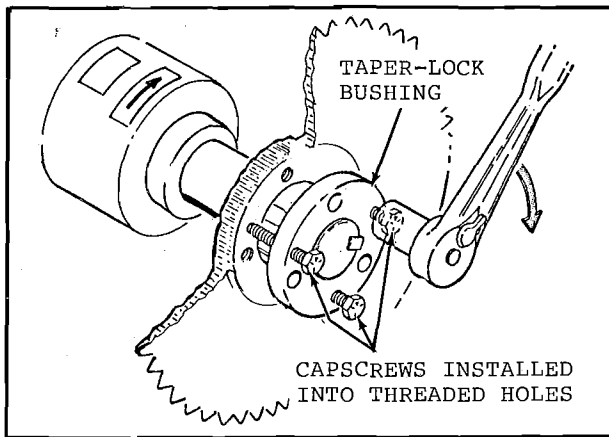

FIG. 25 - CAPSCREW ARRANGEMENT FOR DISASSEMBLY OF BUSHING
1. To remove pulley, or sprocket from its respective shaft (Fig. 25) -